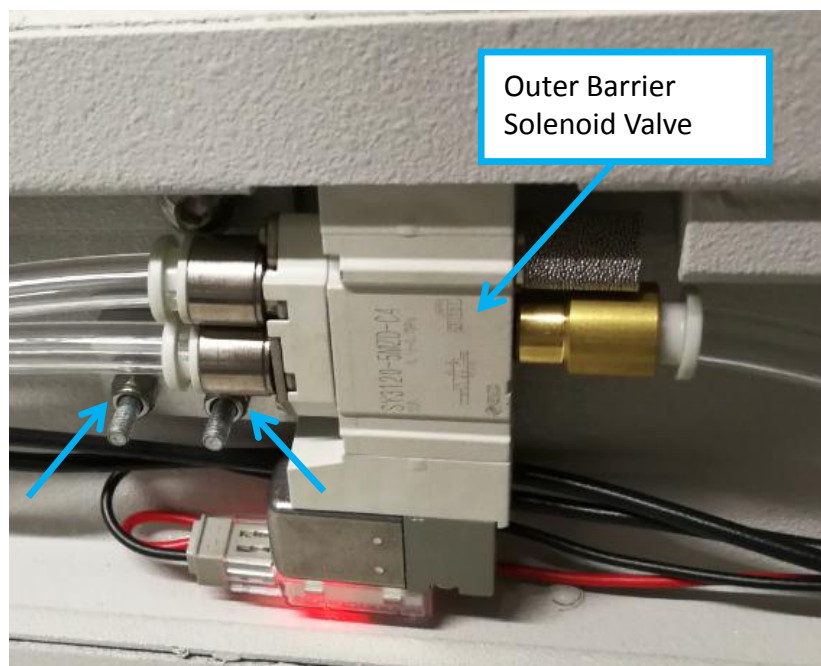

Figure 7
11. Assemble entire Outer Barrier Valve assembly at Outer Barrier. Tighten 2 x Nut. May refer to Figure 7.